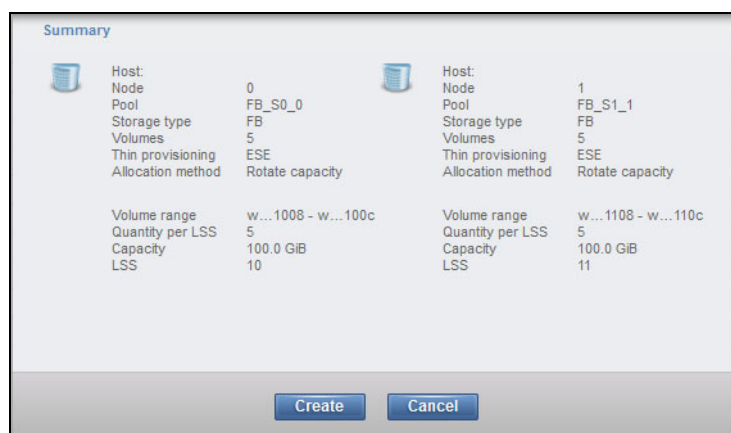

Figure 11-41 Advanced FB volume by volume set summary
- Review the summary, as shown in Figure 11-41, and then click **Create**.